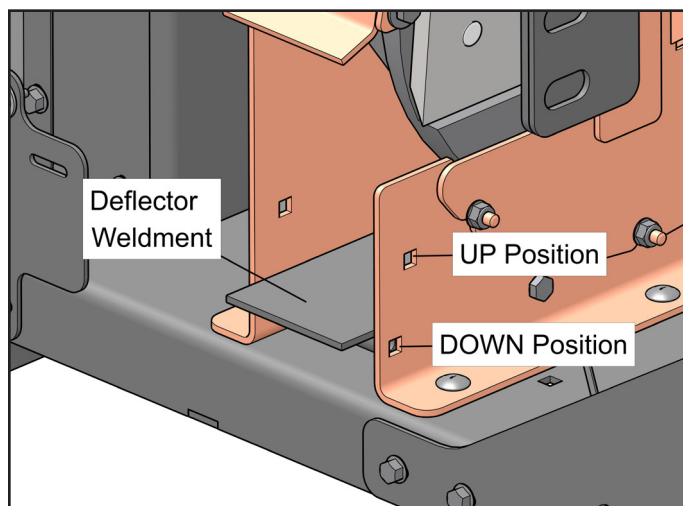
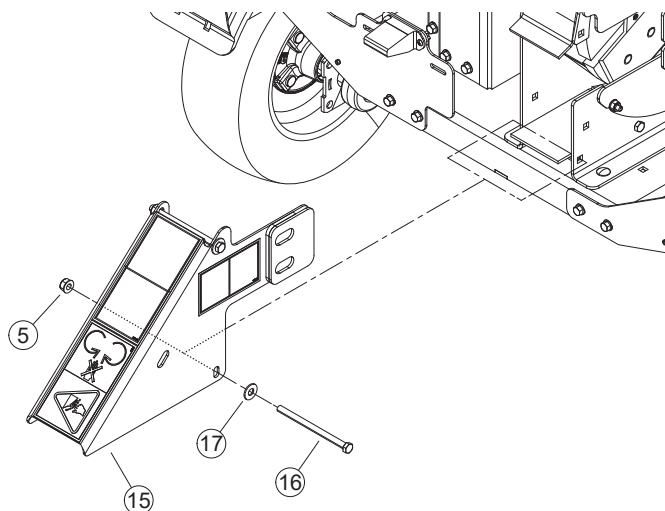

Figure 2.2, Chipper Deflector Weldment
Figure 2.3, Standard Configuration Discharge Cap
1. Align wheels (1) with lug bolts on axle hub and secure to hub using four 1/2" lug nuts (2). Using as alternating pattern, tighten wheel into place and torque lug nuts (2) to 75 ft-lbs.
2. Mount the completed hopper assembly to the chipper housing using four 3/8" × 1" bolts (4) and 3/8-16 nylock nuts (5).
3. With the chipper deflector weldment in the down position (Figure 2.2), place discharge cap assembly (15) onto the housing by aligning the bolt holes of the discharge cap (15) and the bolt holes in the housing. Place the two 3/8" × 5-1/2" bolts (16) through the bolt holes. Secure by adding 3/8" flat washers (17) and nylock nuts (5) to the 3/8" × 5-1/2" bolts (16). (Figure 2.3)